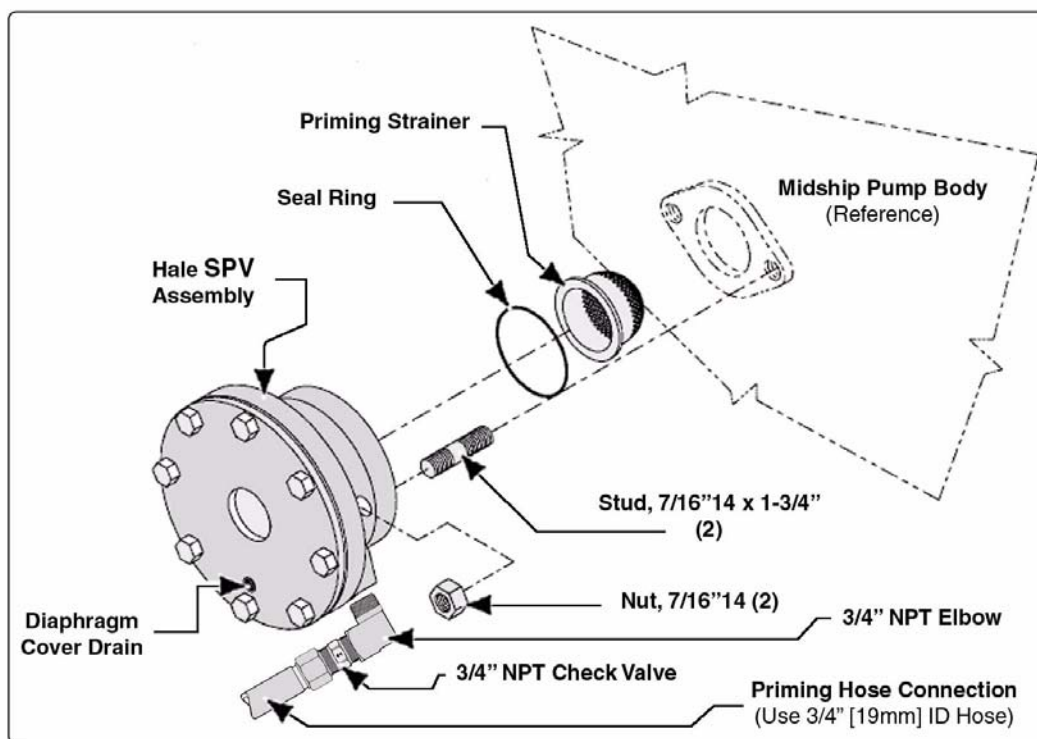

Figure 3-4: Typical SPV / Midship Pump Installation
When installing the Hale SPV as a “retrofit” on an existing midship fire pump use the following procedures. (See Figure 3-4: “Typical SPV / Midship Pump Installation.”)
8. Locate the priming valve flange on the midship pump. (See Figure 3-4: “Typical SPV / Midship Pump Installation,” on page 22.) The priming valve flange is located next to the gearbox on the midship pump.